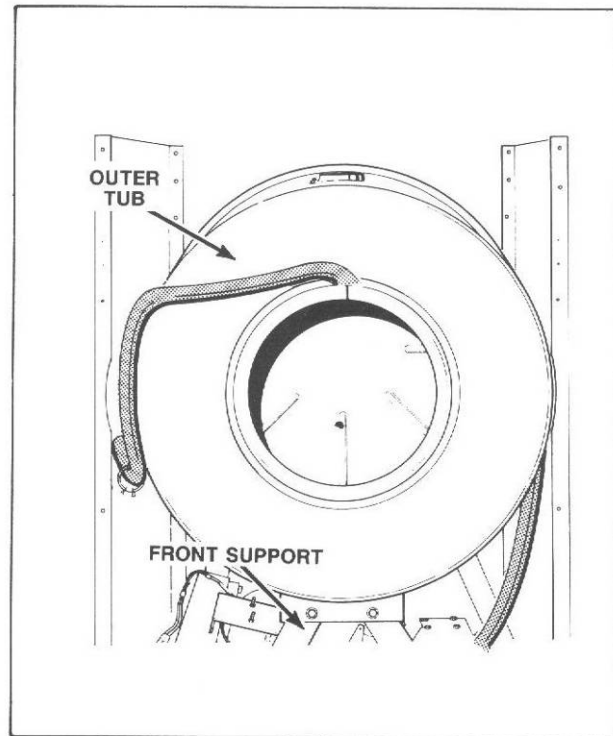

Figure 36
- n. Remove two screws, nuts, washers, and lockwashers holding outer tub to front support, *Figure 36*.